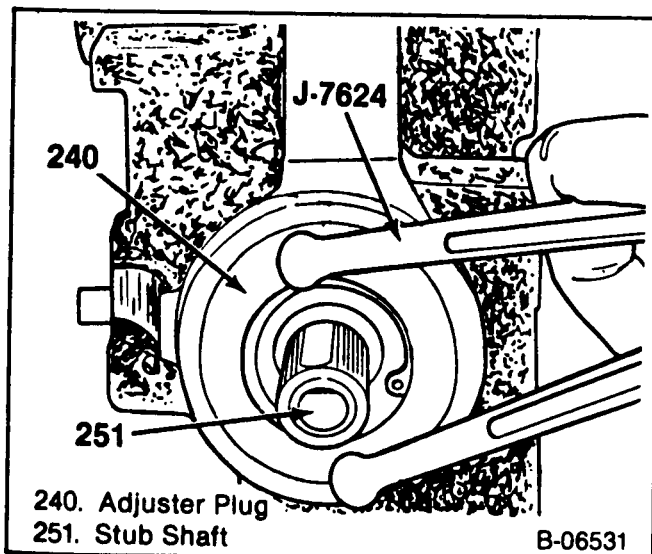

Figure 16—Bottoming the Adjuster Plug
12. Adjuster plug (240) into the steering gear housing. Use spanner wrench J-7624.
**Adjust (Figures 16 through 23)**
- Use tool J-7624. Turn the adjuster plug (240) to the left until the plug and bearing (237) are firmly bottomed - about 27 N·m (20 ft. lbs.) (figure 16).